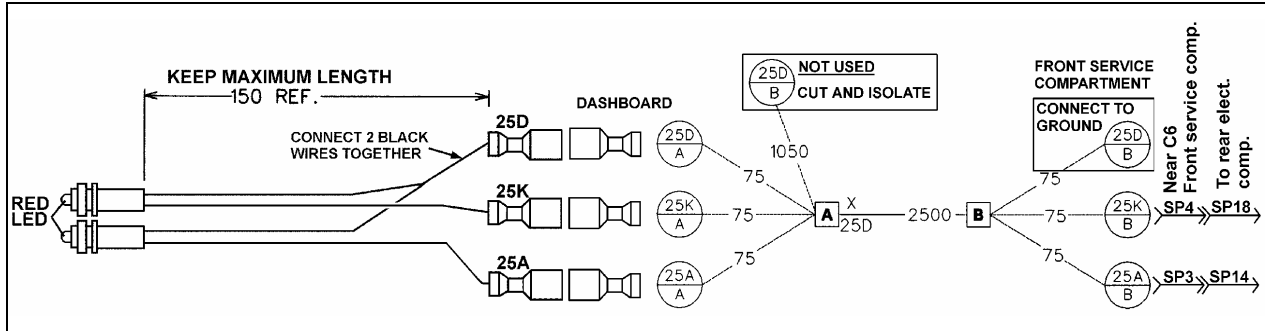

FIGURE 10 : 065150
6. Crimp one receptacle terminal (561626) to each wire of TTLT LED wiring as per figure 10;